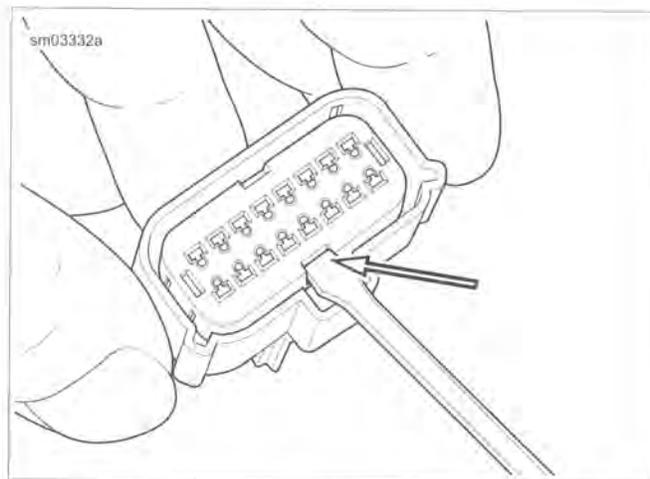

Figure A-48. Secondary Lock Pry Slot (Socket Housing)
- a. **Socket Housing:** See Figure A-48. Use a small screwdriver in the pry slot. The slot next to the external latch provides a pivot point.